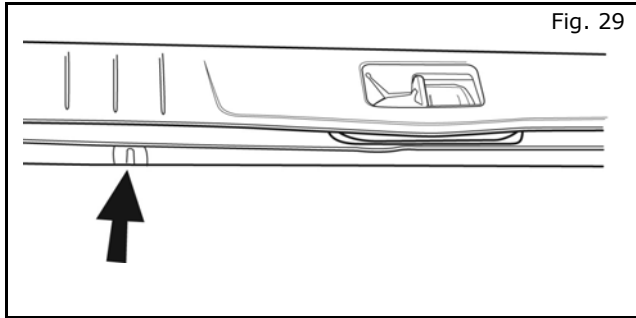

Fig. 29
27) Align the plastic tabs with the drip vents located on the vehicle. (Fig. 29)